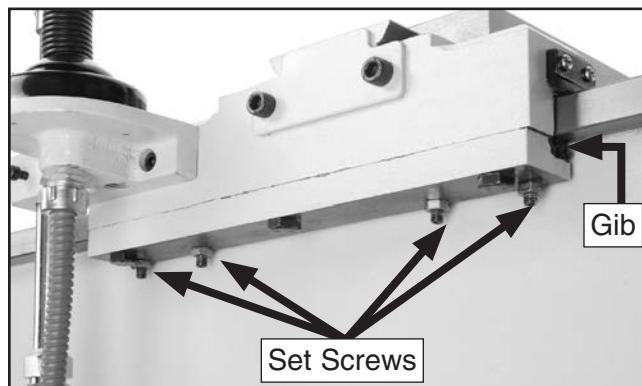

Figure 133. Typical saddle gib components.
The saddle gib is located on the bottom of the back edge of the slide (**Figure 133**). This gib is designed differently than the cross or compound slide gibs. Instead of being a wedge-shaped plate, it is a flat bar. The gib pressure is applied by four set screws. Hex nuts secure these set screws in place, so they will not loosen during operation.
4. Loosen jam nuts on four set screws shown in **Figure 133**, and adjust set screws as follows: